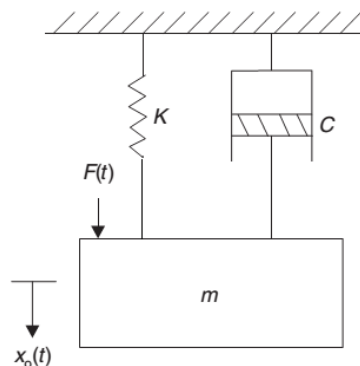

Figure Q4: Spring-mass-damper system.
- (c) Find the value of the critical damping coefficient C_c in terms of K and M for the spring-mass-damper system shown in Figure Q4 below. [10]